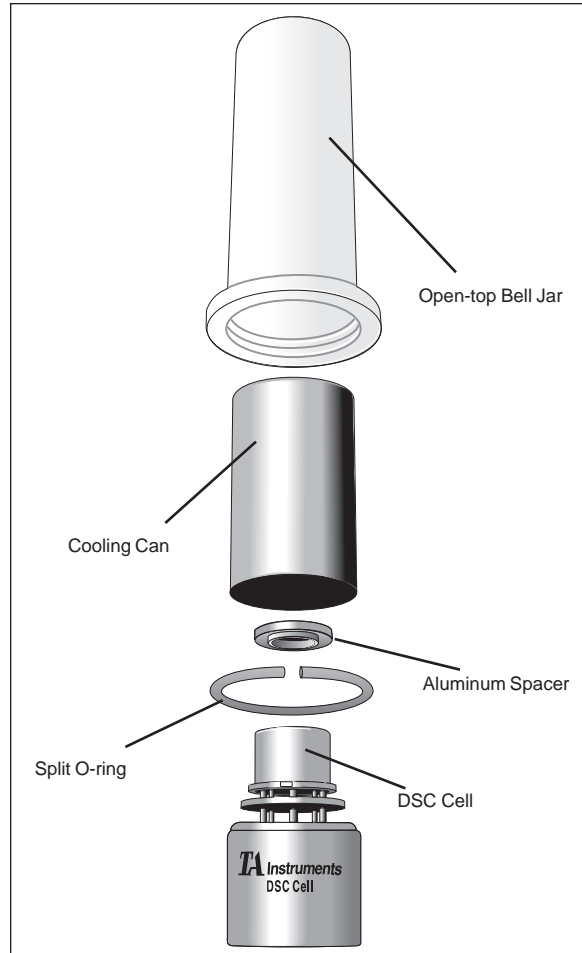

Figure 2.10
3. Place the aluminum spacer on top of the cell as shown in Figure 2.10.